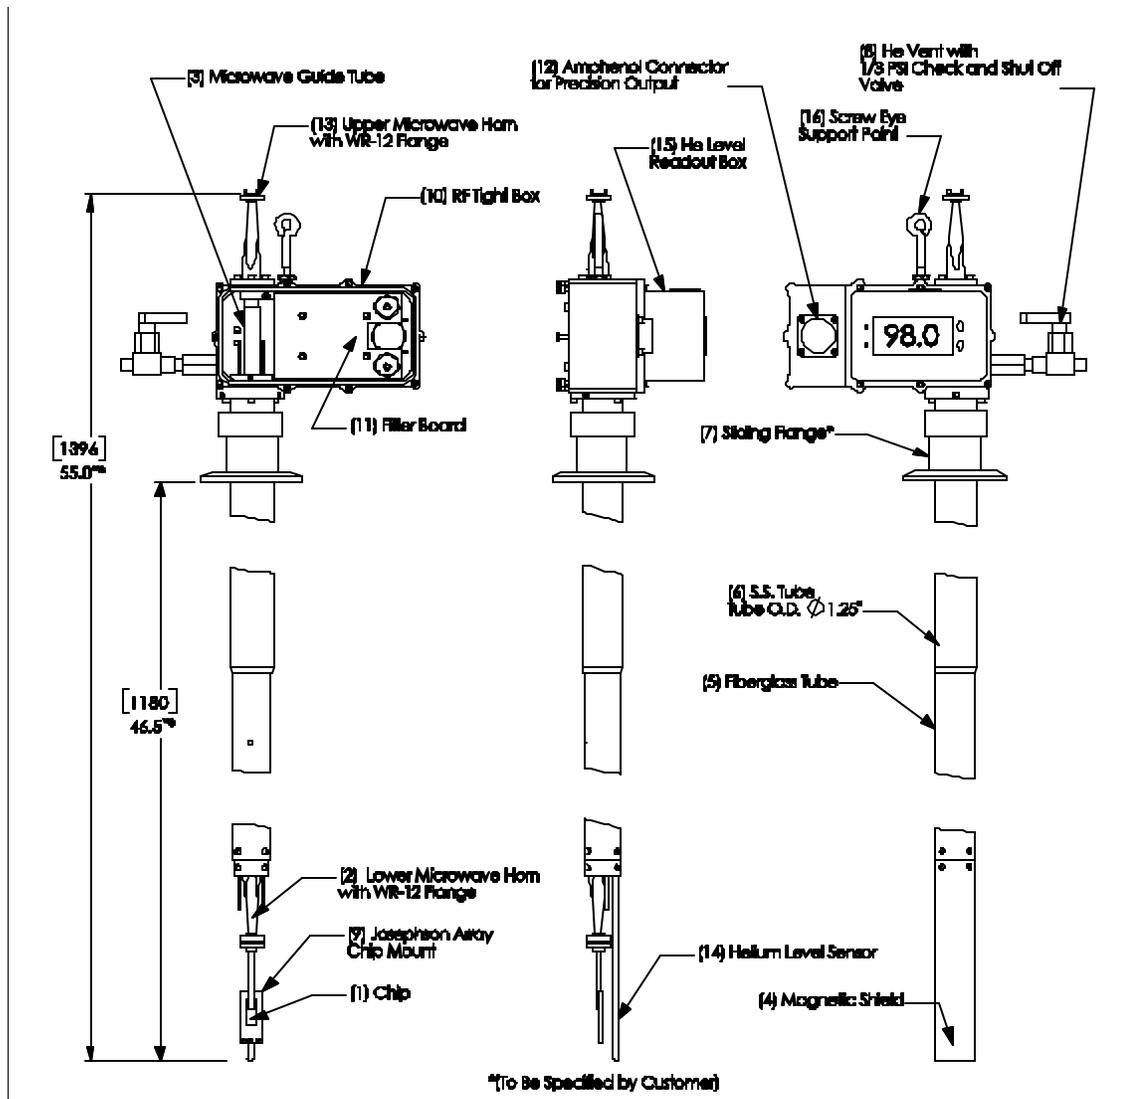
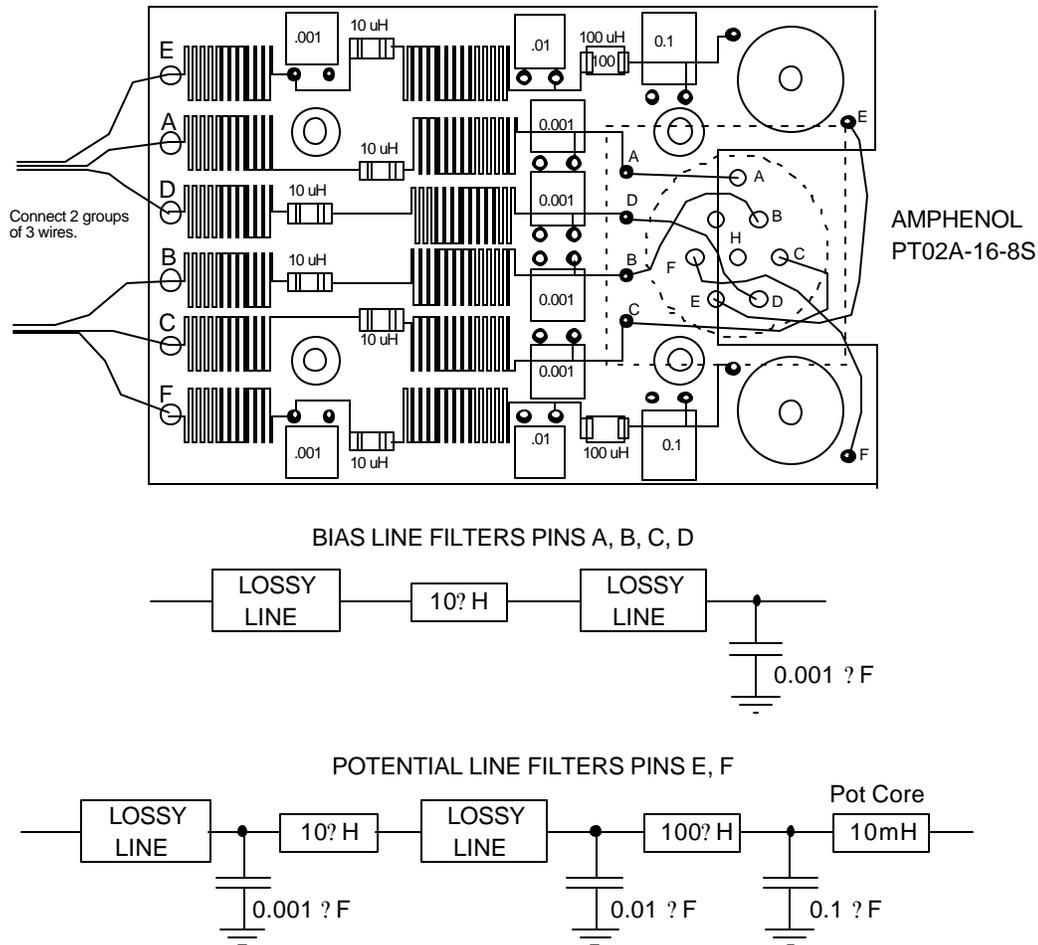

Fig. 1 Mechanical drawing of the CP-525 Cryoprobe
Fig. 2 Filter printed circuit board layout and schematic diagram.
The model CP-525 cryoprobe is the interface between a Josephson voltage standard (JVS) chip and its microwave and bias electronics system. The cryoprobe, shown in Fig. 1, is made to insert into a variety of liquid helium Dewars and provide a gas tight and RF-tight seal at the top of the Dewar. The Josephson array chip (1) mounts onto the lower WR-12 flange (2) of a tube waveguide (3) inside a magnetic shield (4) at the bottom of the cryoprobe. The waveguide is an internally silver plated 12.5 mm diameter stainless steel tube with launching horns on each end. The magnetic shield and waveguide are supported by a 28 mm diameter fiberglass tube (5). A second 32 mm diameter stainless steel tube (6) and sliding flange (7) attach the cryoprobe to the top of the Dewar. Helium vapor vents through a gas recovery and safety valve (8) at the top of the support tube. This allows an easy connection for helium gas recycling and lowers liquid helium consumption. Six #32 copper wires provide the bias and potential connections to the chip mount (9). An RF-tight box (10) at the top of the cryoprobe encloses a printed circuit board (11) with 6 RFI filters that protect the chip from noise picked up in the bias cable. The bias leads terminate in an 8-pin twist lock connector (12) (Amphenol PT02A-16-8S). The electrical circuit diagram is shown in Fig. 2. The 75 GHz microwave input is connected to the WR-12 flange (13) at the upper end of the tube waveguide. A liquid helium level sensor (14) is mounted in the support tube and extends to the bottom of the magnetic shield. It is connected to a battery operated readout module (15). A screw eye (16) at the top of the cryoprobe provides a convenient support point for lowering the cryoprobe into a Dewar. A fiber glass support bracket (not shown) attaches to the back of the filter box to support and protect a 75 GHz microwave assembly.
Dewars are usually shipped with helium gas venting through only valve (b). **To maintain the Dewar in a safe condition, be sure that gate valve (c) is closed and open the gate valve that is in series with the low pressure relief valve (d).** If there is substantial pressure (for example 5-10 psi) in the Dewar, it is desirable to control the vent rate before finally opening valve (d) all the way. This could take several hours. **When the Dewar is in your laboratory, either valve (d) or the low pressure relief valve (8) Fig. 1 on the cryoprobe must be open.** Venting helium boil off gas through the cryoprobe intercepts heat conducted down the waveguide and wires and reduces helium consumption.